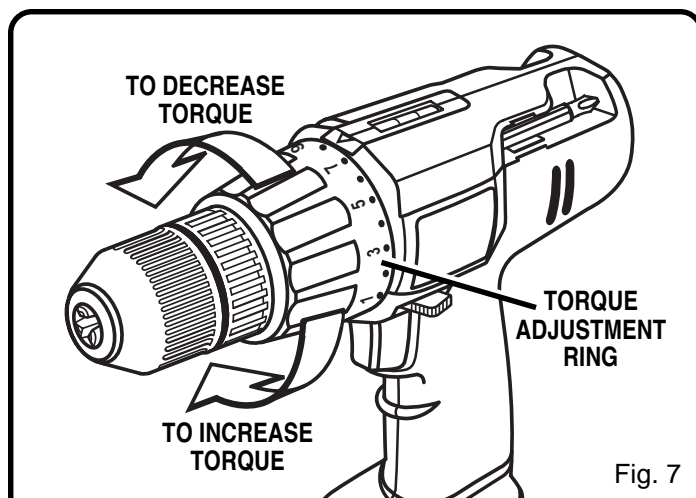

Fig. 7
The torque is adjusted by rotating the torque adjustment ring. See Figure 7. The torque is greater when the torque adjustment ring is set on a higher setting. The torque is less when the torque adjustment ring is set on a lower setting.
- Identify the twenty four torque indicator settings located on the front of your drill. See Figure 7.